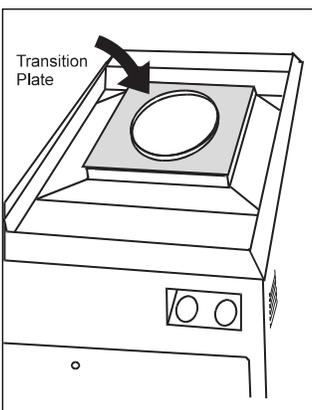

Figure 34. Installation of Transition Plate
6. Place transition plate securely on top of flue collector so flue gases will not leak (see Fig. 34).